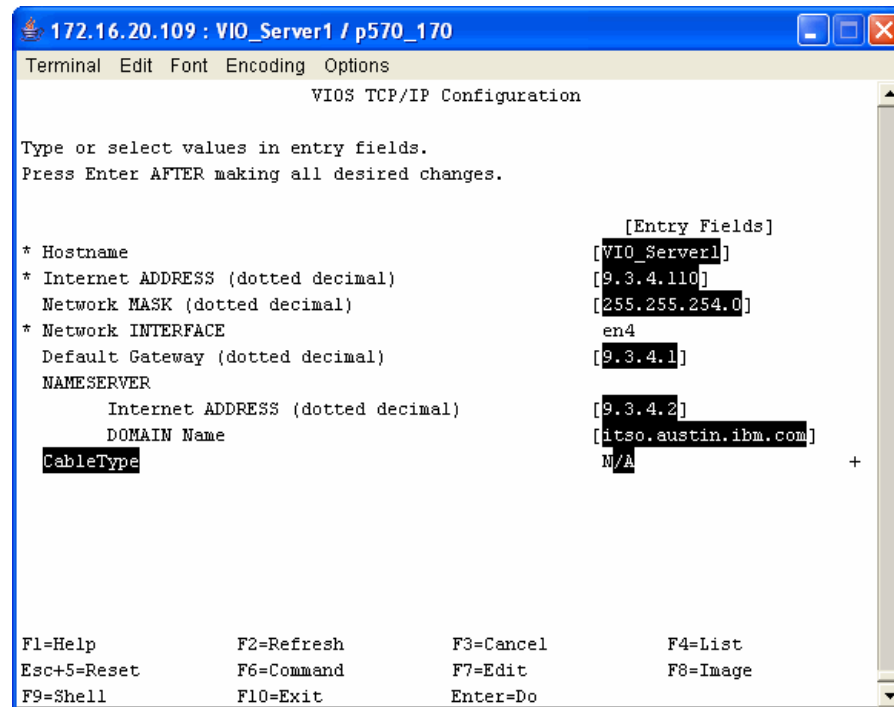

Figure 16-74 Create an IP on the Shared Ethernet Adapter using **cfgassist**
7. Define the network configuration for each Virtual I/O Server on the newly created SEA interface. You can use the **mktcpip** command or the **cfgassist** command to launch the SMIT menus, as shown in Figure 16-74 for VIO_Server2.